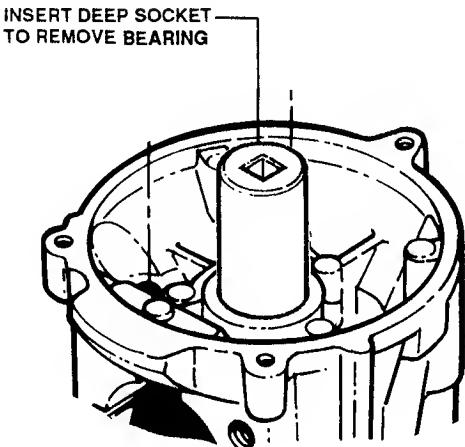

FIGURE 35
- To press out the needle bearings, use a socket with a slightly smaller O.D. than the I.D. of the crankcase opening. Always press bearings on the outside rim or border. Reinstall bearings using the same method. Lightly coat the bearings with 30-weight oil, making installation easier. Press bearing so that it protrudes into the inside of the crankcase. The surface of the bearing should measure 11mm from the crankcase mating surface. Use same method for other crankcase half. See Figure 35.